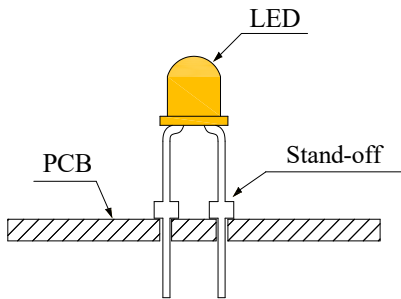
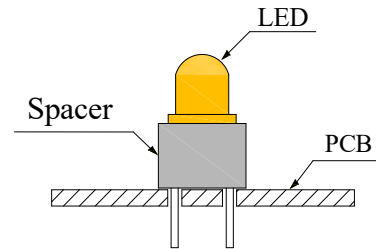

Fig. 3
Fig. 4
3.3. Use stand-offs (Fig. 3) or spacers (Fig. 4) to securely position the LED above the PCB.